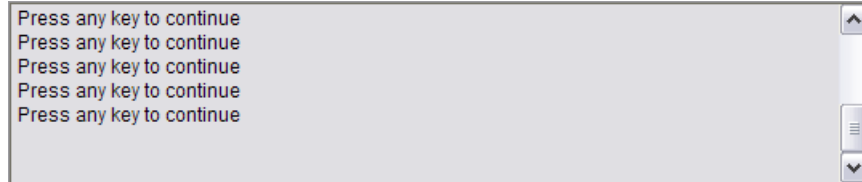

Figure 21. Waiting for User Input
Now the MCU will be running the new firmware and blinking the green LED (P1.6) to indicate that the IP address has not been programmed. In this mode, the MCU is waiting for the user to initiate the update by connecting to the serial port and pressing any key to start. Figure 21 shows the output seen on a UART terminal screen when the MCU is waiting for user input. The following instructions show how to program the IP and MAC addresses.
3. Once connected, you should see the text in Figure 21 appear on the screen. **Press any key.**